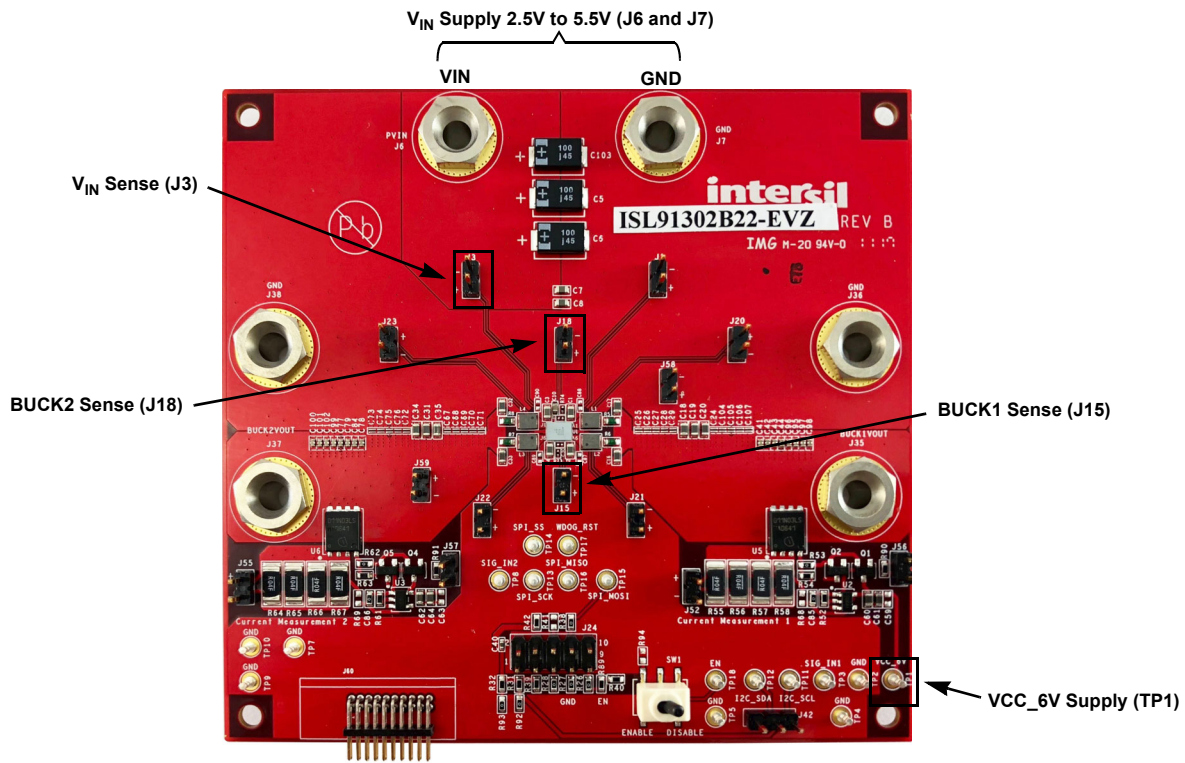

Figure 11. ISL91302B22-EVZ Efficiency Measurement Connections
- (1) Connect a power supply at J6 ( $V_{IN}$  supply), with the voltage setting between 2.5 and 5.5V. Set its current limit high enough to support the maximum load current with additional headroom. If the power supply supports remote sense lines, use a Kelvin connection on J3. Otherwise, connect a multimeter at J3.
- (2) Apply 6V to TP1 (VCC\_6V) to initiate the startup sequence and all three outputs will turn on. To get an accurate single channel measurement, disable the other two outputs using the GUI.
- (3) Turn on the electronic load at VOUTx. The connection should be made at J35 (VOUT1) or J37 (VOUT2). Make sure the load current does not exceed 5A per phase, and the correct wire size is used when attaching the electronic load.
- (4) Measure the output voltage with a multimeter. The voltage should regulate within datasheet spec limits.
- (5) To determine efficiency, measure input and output voltages at the Kelvin sense test points (S+ and S-), which are located at J3 ( $V_{IN}$  SENSE) and J15 (BUCK1 SENSE) or J18 (BUCK2 SENSE) headers. Measure the input and output currents from the  $V_{IN}$  power supply and the electronic load. Calculate efficiency based on these measurements. For detailed setup information, refer to Figure 11 on page 10.